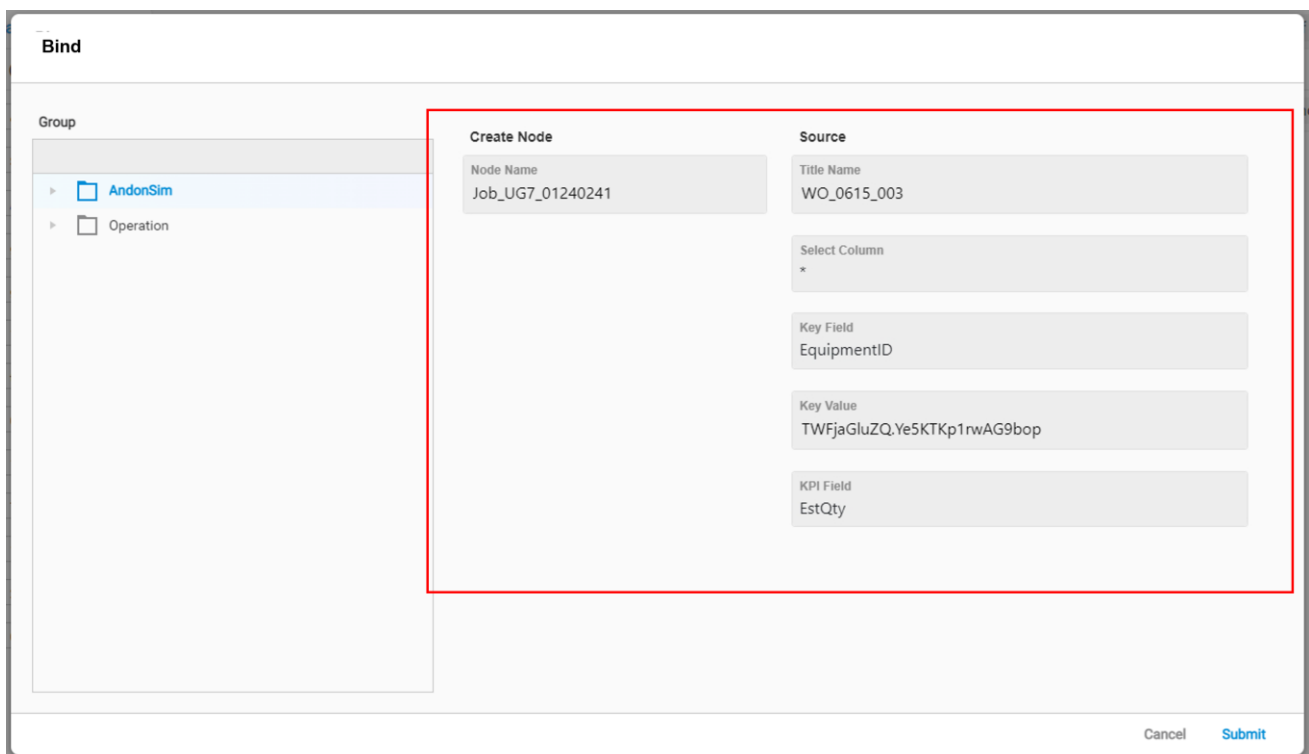

Figure 3-8 Data retrieval – Binding-2
- Fields in Figure 3-8 are explained as below: